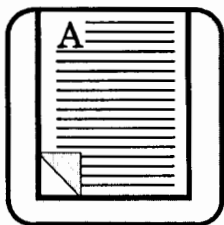

**Figure 2-6. Page Orientation**
Orientation refers to the direction of the print on a page. Printing along the short edge (width) of a page is **portrait** orientation (see ① in figure 2-6), and printing along the long edge (length) of a page is **landscape** orientation (see ② in figure 2-6).
Figure 2-6 shows pages printed in portrait and landscape orientation.